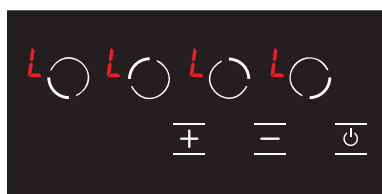

Figure 17
1. The **L** icon is displayed on all displays when the stove is on and the child lock is active. (see Fig. 17) The **L** and **H** icons are displayed alternatively if any hob is hot. You may turn the stove on or off with the power key only.